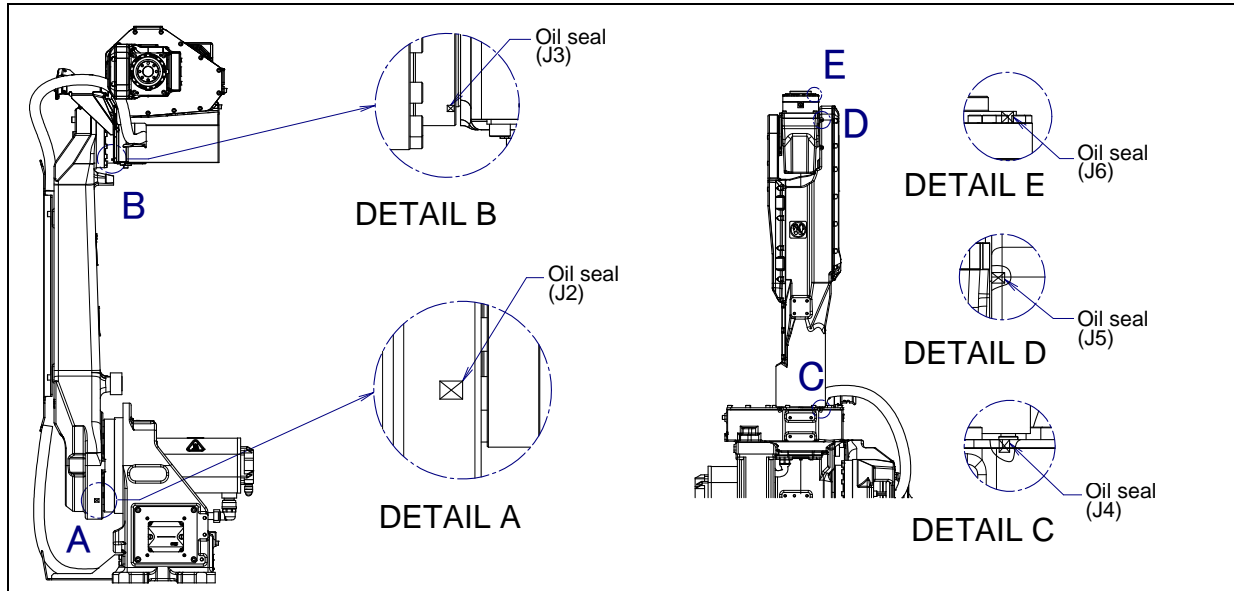

Fig.8.2.1 Check parts of oil seepage
- Oil might accumulate on the outside of the seal lip depending on the movement condition or environment of the axis. If the oil viscosity changes, the oil might drip depending on the axis movement. To prevent oil spots, be sure to wipe away any accumulated oil under the axis components in Fig. 8.2.1 before you operate the robot.